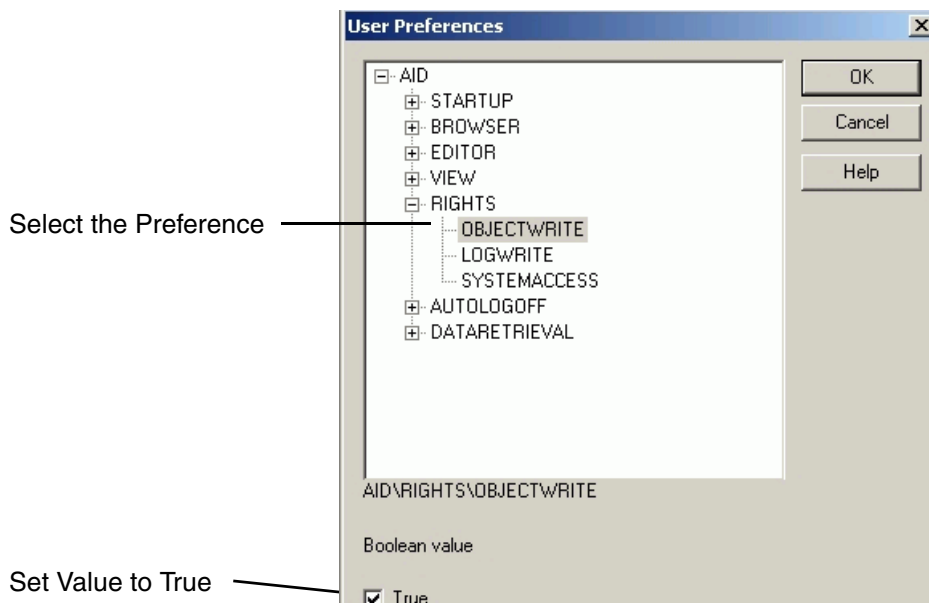

Figure 402. Enabling the OBJECTWRITE User Preference
3. From the User Preferences dialog, Figure 402, Click + to expand the RIGHTS section, select OBJECTWRITE or LOGWRITE, or both, and check the check box to change the preference value to **True**.